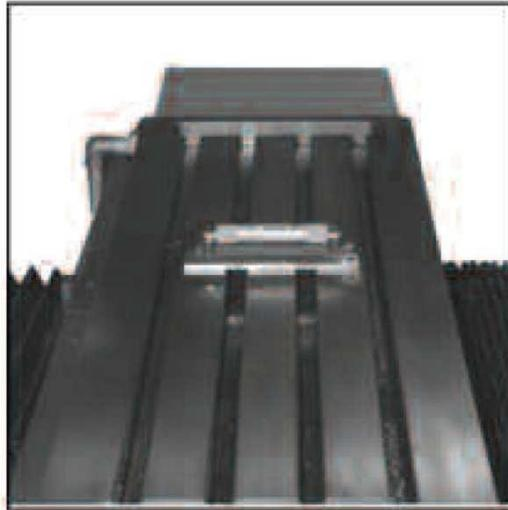

Figure 3-78 Level Parallel to the Y Axis
5. Place a machinist level on the mill table (Figure 3-78), parallel to the Y-axis. Adjust the left and right side feet, up or down, to center the level bubble. By adjusting these feet, you are tilting the machine sideways around the Y-axis of the machine.